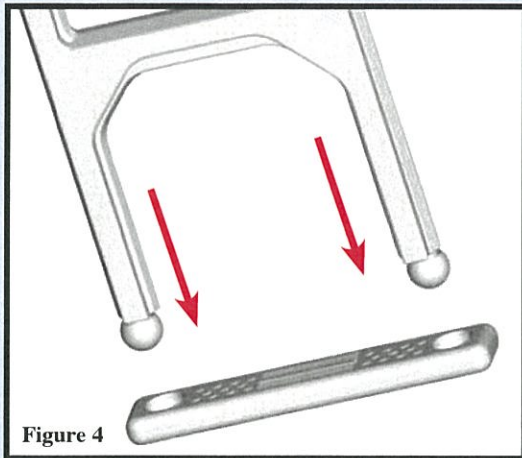

Figure 4
- Push down firmly until both balls are inserted into the step. See figure 4.